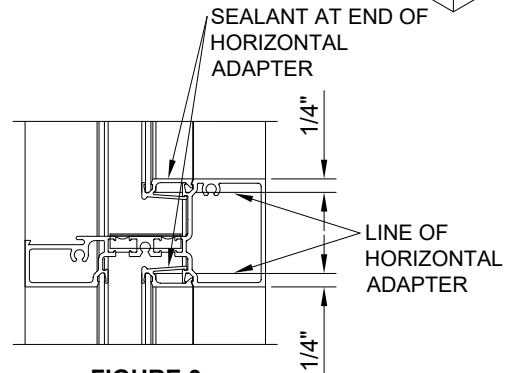

FIGURE 3
STEP 4: Snap vertical adapters into glazing reglets of frame. Adapter should be positioned to allow sealing of horizontal adapter to the vertical adapter (approximately 1/4" projection into horizontal pocket, Figure 3)